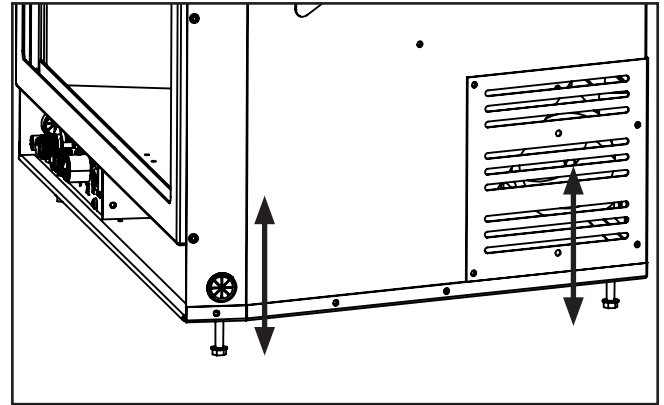

Figure 31: Levelling legs position.
15. Adjust the levelling legs to ensure the unit is level and high enough if a base shelf and/or riser is to be installed. There are four levelling legs on the bottom of the unit (shown in Figure 31).